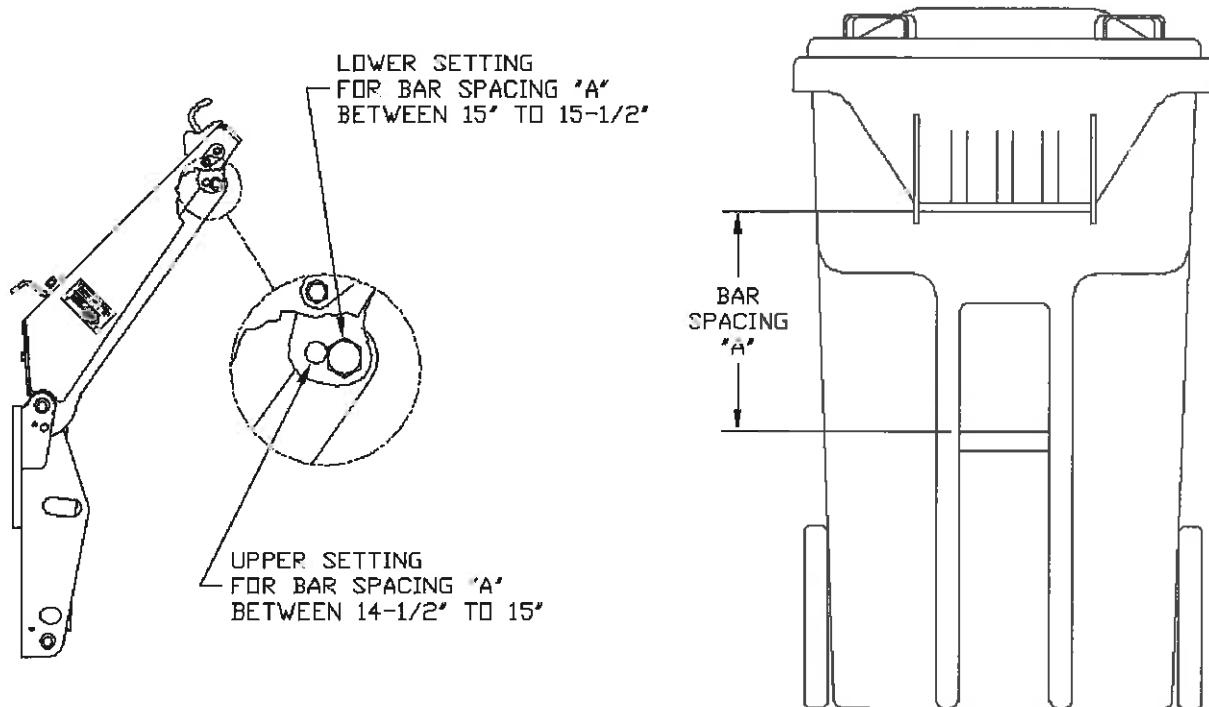

figure O-3
The lower hook is equipped with two settings that must be properly adjusted to accommodate the carts being lifted. Check the distance (A) (figure O-3) between the upper bar and the lower bar on the cart. If this dimension is between *15" to 15-1/2"*, leave the lower hook attachment in the lower setting. If this dimension is between *14-1/2" to 15"*, move the lower hook attachment to the upper setting.